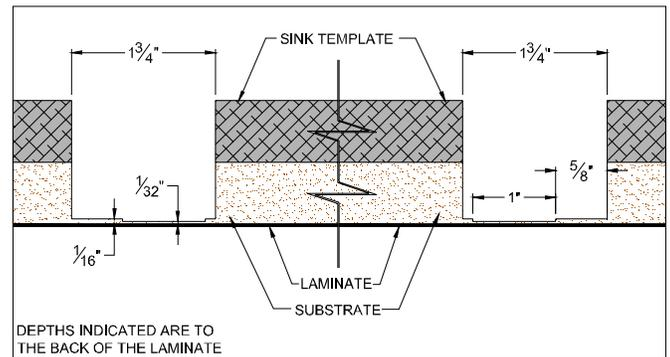

Figure 10A
- Index a 31/4 HP or 21/2 HP plunge router with a 1" straight cut router bit and a 11/4" (31.75mm) template guide to remove the remaining substrate to within 11/32" of the laminate. (FIG. 10A)